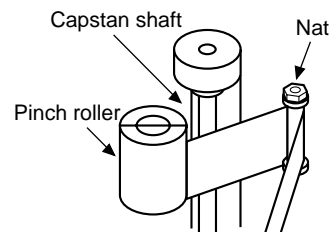

Figure 7
(2) Adjusting the Tu guide (Figure 7)